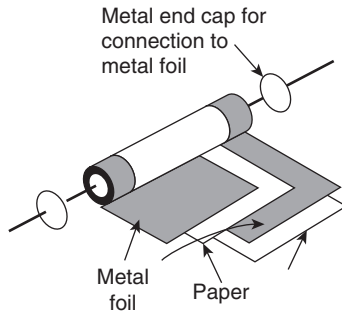

Figure 6.16
3. **Paper capacitors.** A typical paper capacitor is shown in Fig. 6.16 where the length of the roll corresponds to the capacitance required.